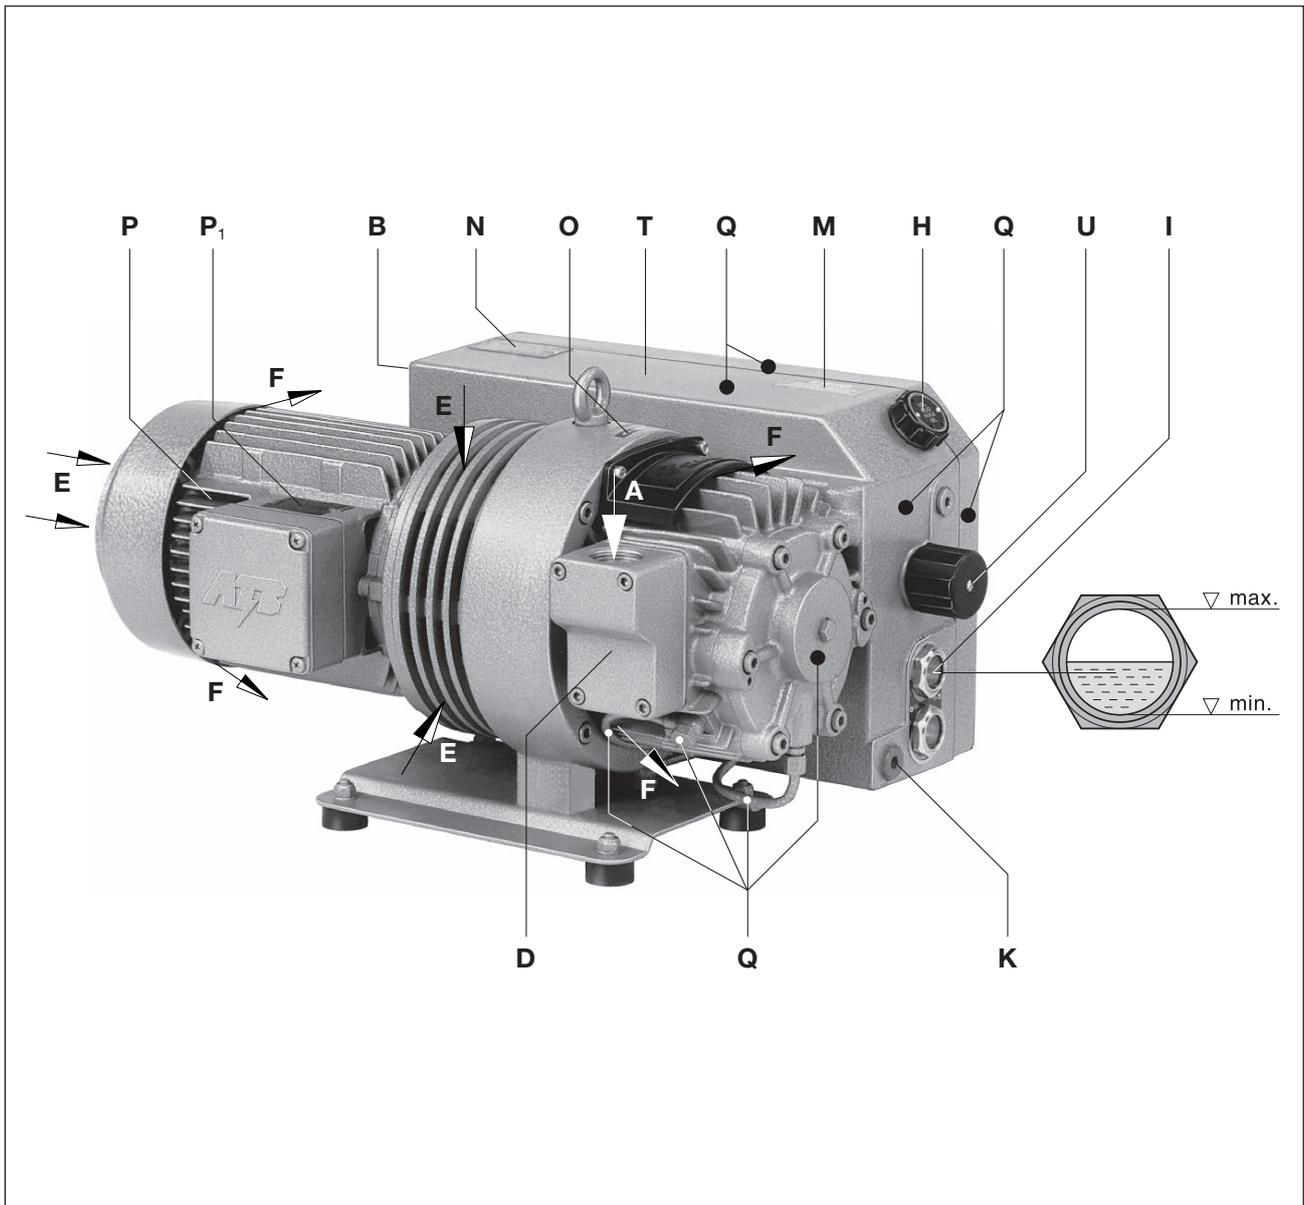

Fig. 2 Vacuum pump V-VCA / V-VCE
A gas ballast valve fitted as standard (Fig. 2/U) prevents condensation of water vapour in the inside of the pump when low amounts of steam are sucked in when the pump is at operating temperature. A reinforced gas ballast can be provided for higher amounts of water vapour.
The filter housing (Fig. 2/D), oil filling point (Fig. 2/H), oil sight glass (Fig. 2/I), oil outlet (Fig. 2/K), gas ballast (Fig. 2/U) and oil remover housing (Fig. 2/T) must be easily accessible. The cooling air inlets (Fig. 2/E) and the cooling air outlets (Fig. 2/F) must be at least 20 cm away from adjacent walls. Discharged cooling air must not be sucked in again. For maintenance work there must be a space of at least 40 cm around the machine.
The air vent (Fig. 2/B) must not be closed or restricted
- a) The vacuum connection (Fig. 2/A) is on the filter housing (Fig. 2/D).
- b) The discharged air can be freely blown out through the exhaust air hole (Fig. 2/B) or conducted away using a hose or pipe.
- a) Fill the lubricating oil (for suitable types see the "Maintenance" section) via the oil filling point (Fig. 2/H) up to the upper edge of the sight glass (Fig. 2/I).
- a) The motor's electrical data is given on the data plate (Fig. 2/N) or on the motor data plate (Fig. 2/P_i). The motors comply with DIN EN 60034 and are in protection class IP 55 and insulation class F. The appropriate connection diagram is located in the motor's terminal box (not for the plug connection version). The motor data must be compared with the data of the existing mains network (current type, voltage, network frequency, permitted current value).
- ▷ The drive shaft direction of rotation is shown by the rotation direction arrow (Fig. 2/O) on the motor flange.
- b) After correcting the direction of rotation if necessary, start the motor again and stop it again after 2 minutes in order to top missing oil up to the upper edge of the sight glass (Fig. 2/I). This topping up at the filling point (Fig. 2/H) must be repeated until all the oil pipes have been filled completely. The filling point must not be open when the pump is running.
- ▷ Version (09):
The operating range can be set by turning the adjusting bolt (Fig. 2/X, 4/X).